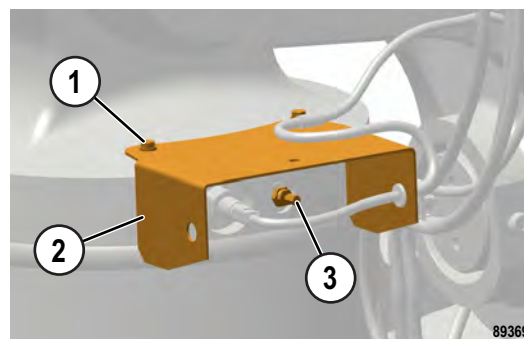

FIGURE 50-32. COVER REMOVAL
2. If necessary, remove mounting hardware (1, Figure 50-32) and remove protective cover (2) to access charging valve (3).